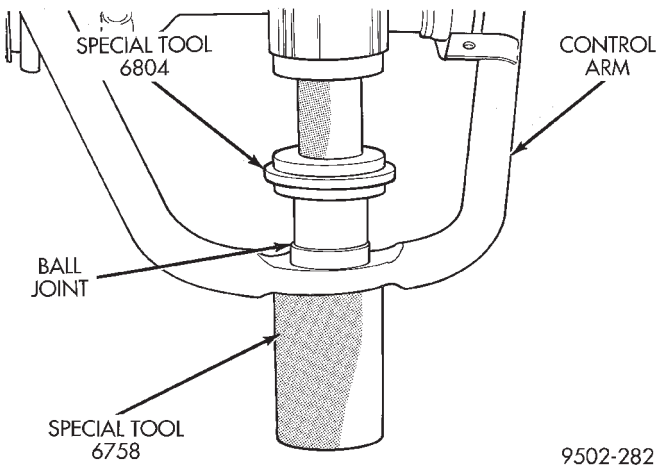

Fig. 54 Removing Ball Joint From Upper Control Arm
(2) Position Receiving Cup, Special Tool 6758 to support control arm when removing ball joint assembly (Fig. 54). Install Remover/Installer, Special Tool 6804 on top of ball joint assembly (Fig. 54).